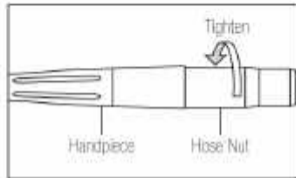

Fig. 2
1) Install Quick connect swivel coupler (C-4, C-5, C-6) to tubing end by aligning the tubes at the back end of the coupling with the corresponding holes in the end of your handpiece tubing. Insert the coupling into the tubing, and tighten the hose nut turning it clockwise as shown in figure 2.